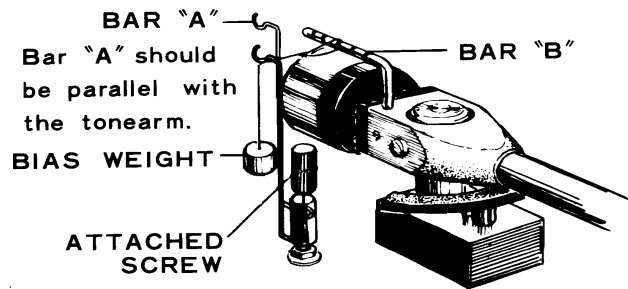

Fig. 3
*Mount the bar "A" on the baseplate with the attached screw. In this instance, the horizontal arm of the bar should be parallel with the tonearm and point toward the tail of the tonearm. (Fig. 3)